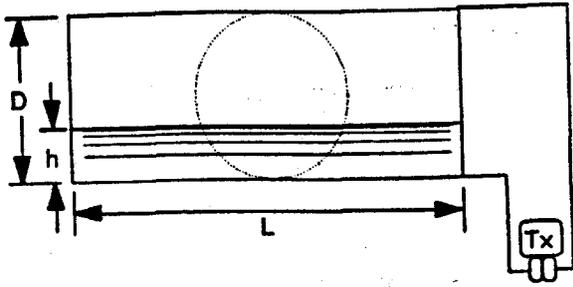

Fig. 5a
- a) Cylindrical vessel with flat ends (not often used. Fig. 5a). Transmitter measuring the whole vessel height.